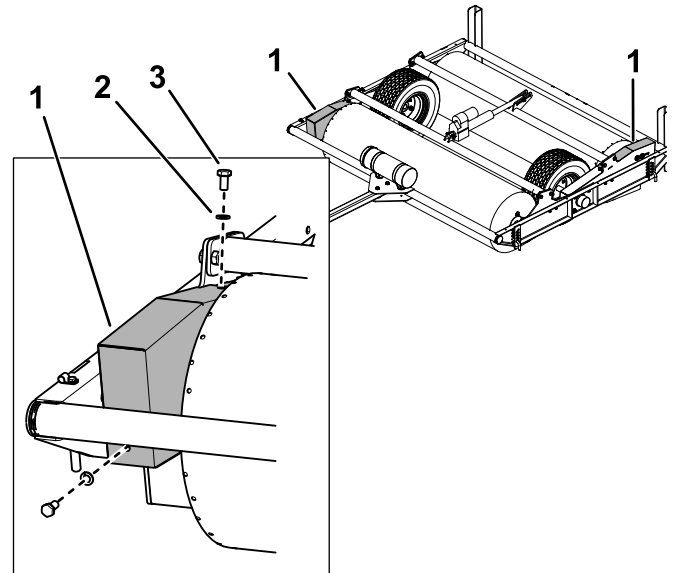

Figure 16
- Nut (2)
- Install the chain guards as shown in Figure 16.